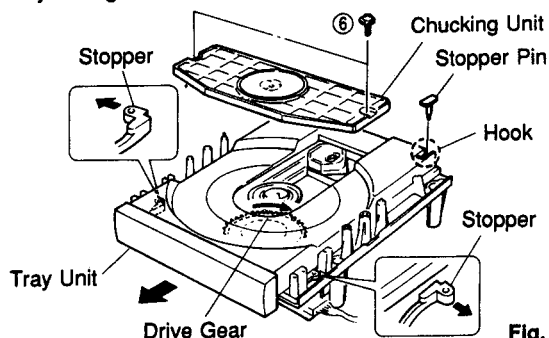

Fig. 2
- Remove 2 screws (⑥) and then remove the Chucking Unit in Fig. 2.
- Remove 1 hook and then remove the Stopper Pin in Fig. 2.
- Rotate the Drive Gear and then open the Tray Unit in Fig. 2.
- Detach the Stoppers on both sides and then pull out the Tray in Fig. 2.